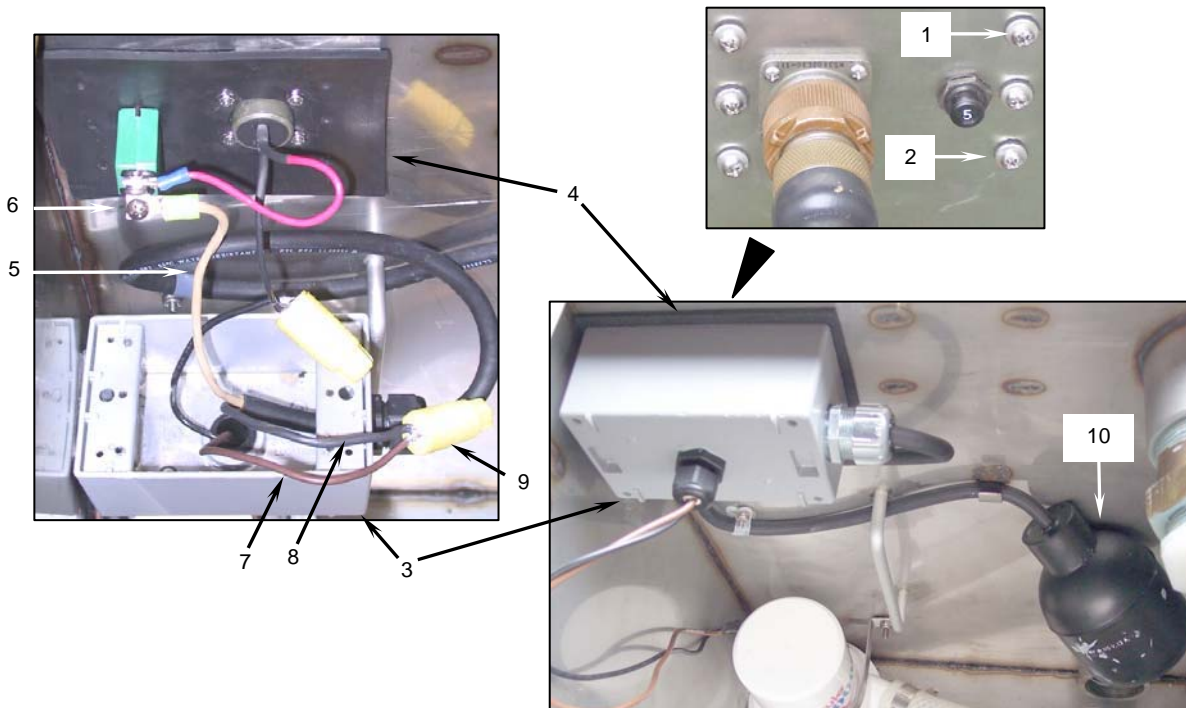

Figure 1. Testing the Grease Separator Float Switch.
2. Remove the six machine screws (**Figure 1, Item 1**) and sealing washers (**Figure 1, Item 2**) that secure the weatherproof box (**Figure 1, Item 3**) to the wall of the grease separator.
3. Carefully pull the box away from the wall, taking care not to damage the gasket (**Figure 1, Item 4**).
4. Disconnect the white float switch wire (**Figure 1, Item 5**) from the circuit breaker terminal (**Figure 1, Item 6**).
5. Tag the brown pump wire (**Figure 1, Item 7**) that is connected to the black float switch wire (**Figure 1, Item 8**). Remove and discard the wire nut (**Figure 1, Item 9**) and separate the wires.
7. Tilt the float switch (**Figure 1, Item 10**) up and place the multimeter test probes on the two float switch wires (**Figure 1, Item 5**) and (**Figure 1, Item 8**). The multimeter should read zero.